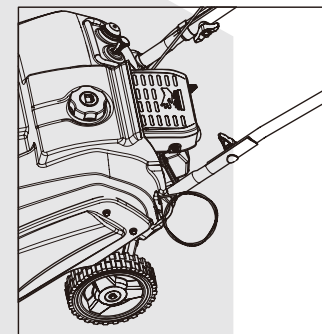

Fig 1
1. Unwind the Auger Clutch Cable located on the left-hand side of the snow thrower. (Fig 1)